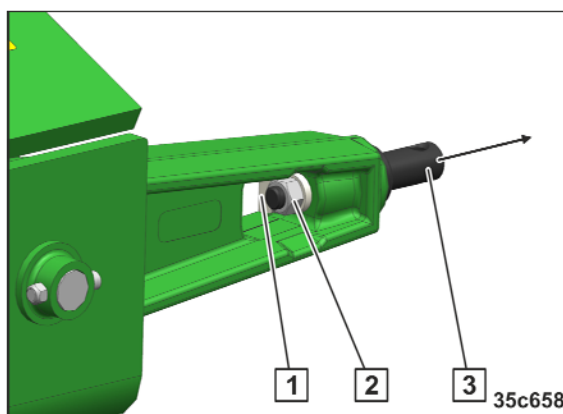

Fig. 106
1. Unscrew the nut (Fig. 106/2) and remove it.
2. Remove the guard plate (Fig. 106/1).
3. Remove the lower link pin (Fig. 106/3).